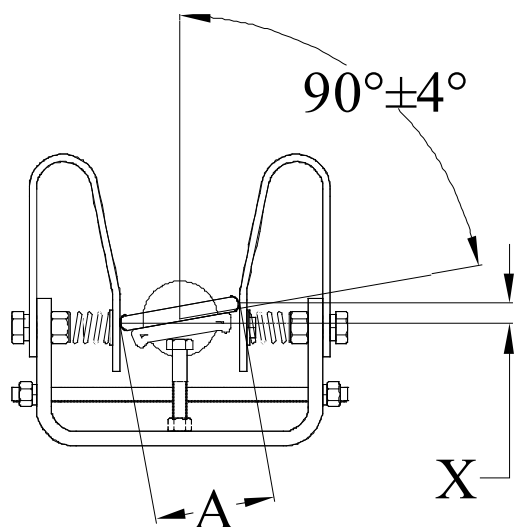

FIG. 4 END VIEW SHOWING BLADE CONTACT ANGLE
Blade Contact Angle—(Fig. 4) The allowable difference in elevation from one side of the blade contact to the other (dimension X) is 1/16" for each 1" of contact width. Example: If contact width (A) is 4 1/2", then dimension (X) can be as much as 9/32" and still be within the plus or minus 4 degree tolerance.
Also, Fig. 4 shows blade contact high on the right and low on the left. The reverse is also acceptable, high on the left and low on the right. It is common to have both situations on one three-pole switch. In fact, after all three poles have been adjusted in the open position, and then closed, you may find that one pole will be high on the right, one fairly level and one high on the left. This is